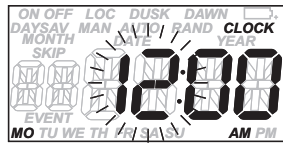

Fig. 1
2. The display will initialize itself, then flash “12:00 AM” in the **CLOCK** mode (Fig. 1).
1. Ensure that the timer is in the **CLOCK** mode (Fig. 1). If it is not, press the **MODE** button a few times (through **MAN**ual, **AU**T0 and **RAN**dom) until **CLOCK** shows in the mode display area, then press **OK**.